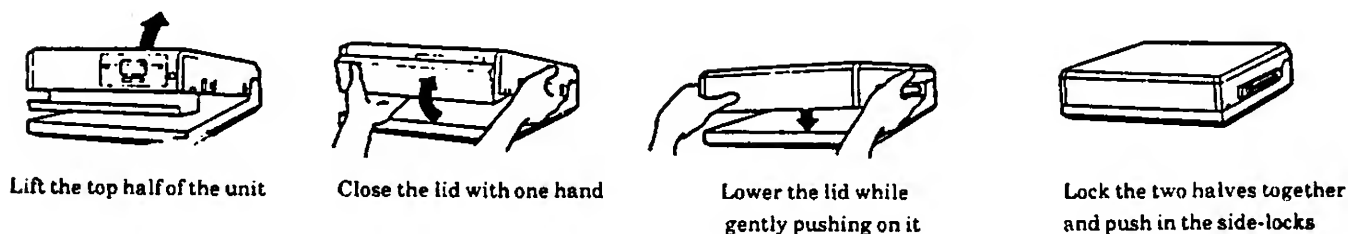

Figure 930-17 Closing the Disk Drive
- Lock the two halves together and push in the slide-locks. (See Figure 930-17).